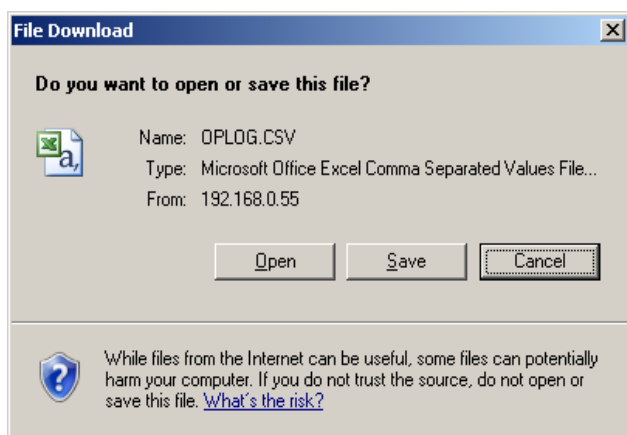

Figure 6-8 File Download Dialog, Save .CSV
- ✧ In the **File Download** dialog (see Figure 6-8), click the **Open** button.